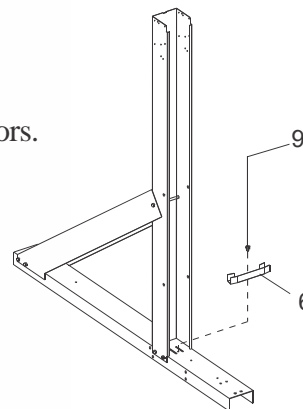

Fig. 10
D) Now you can install the straight side bottom rail connectors. Use one per strap end channel. Place the connector on top of the strap end channel so that the open part of the connector sits inside the straight side upright. The hole in the straight side connector will line up with the hole between the two slots on the strap end channel. (Fig.10). Secure the piece using a #12 x 3/4" self-tapping screw.